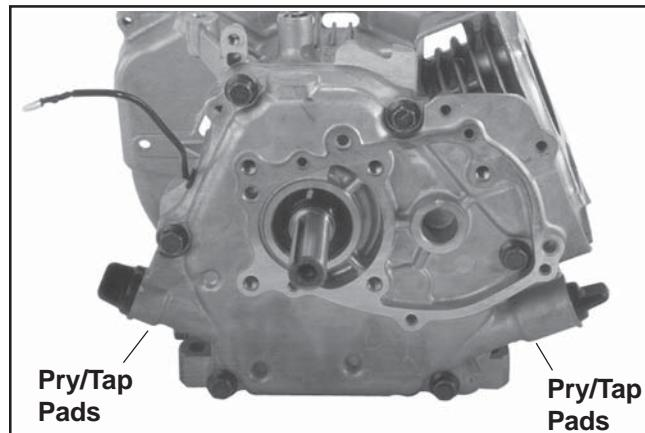

**Figure 9-74. Removing Dowel Pins and Gasket.**
- Remove the dowel pins and gasket. Clean the gasket surfaces with a cleaning solvent or aerosol type gasket remover. **Do not nick or scrape the sealing surfaces.** See Figure 9-74.